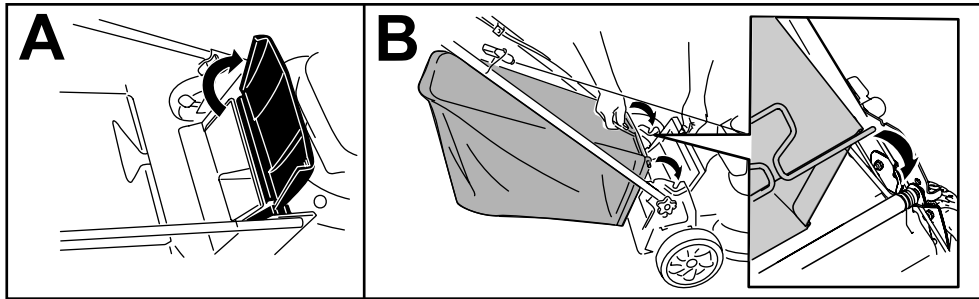

Figure 20
1. Raise and hold up the rear deflector (A of Figure 20).
2. Install the grass bag, ensuring that the pins on the bag rest in the notches on the handle (B of Figure 20).